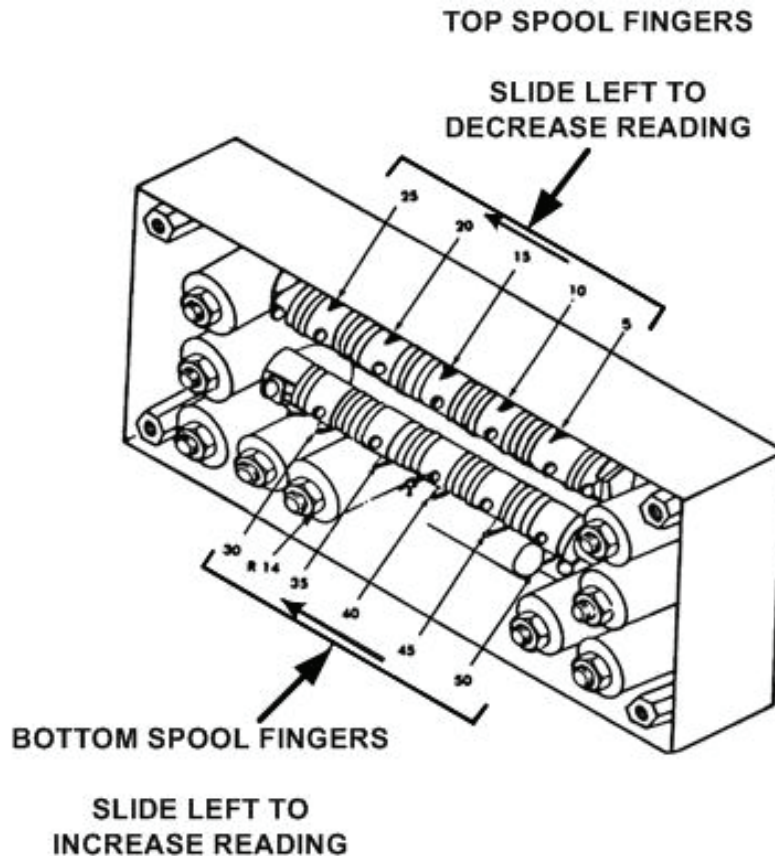

Figure 4. Calibration arrangement.
- (7) After matching errors are obtained, apply loads to any cell in 3000 pound increments.
- (8) Remove TI panel.
- (9) Remove cover of board and component assembly (fig. 4).
- (10) Adjust resistor SPOOL FINGERS (fig. 4) for best linearity (R).
- (7) After matching errors are obtained, apply loads to any cell in 5000 pound increments.
- (9) Remove cover of board and component assembly (fig. 4) for best linearity.
- (10) Adjust resistor SPOOL FINGERS (fig. 4) (R).